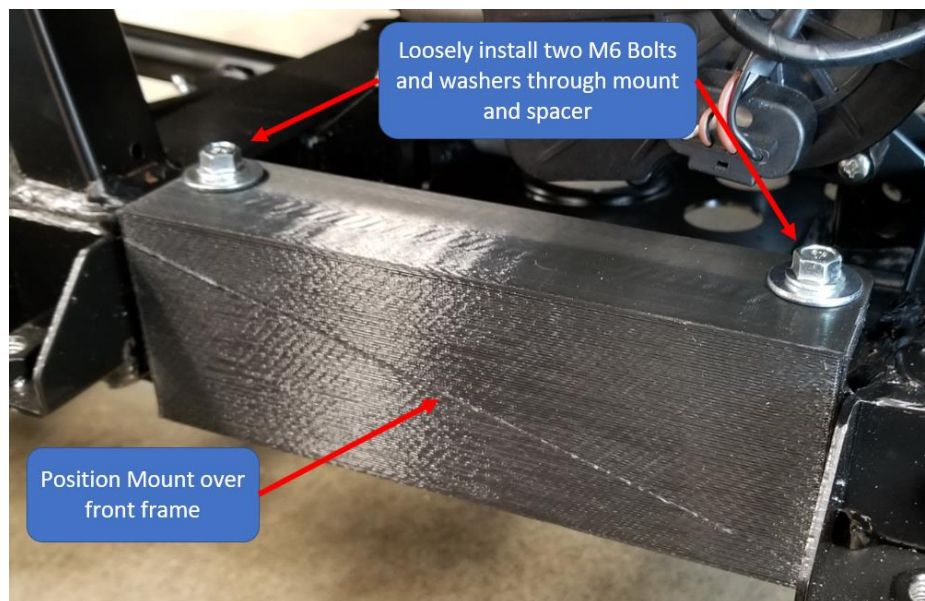

Figure 6
6. Position the main plow bracket over the spacer bracket so the top holes align with the holes in the frame cross support as shown in **Figure 6**